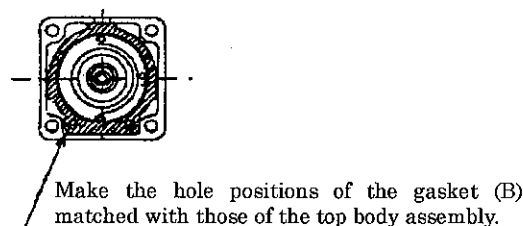

Fig. 2 Explanation diagram of hole position.
2. Assemble the gasket (A) into the groove on the body assembly and put the top body assembly on it. Next, make two holes in the gasket (B) matched with those in the top body assembly as shown in Fig. 2 and place them on the components assembled previously.